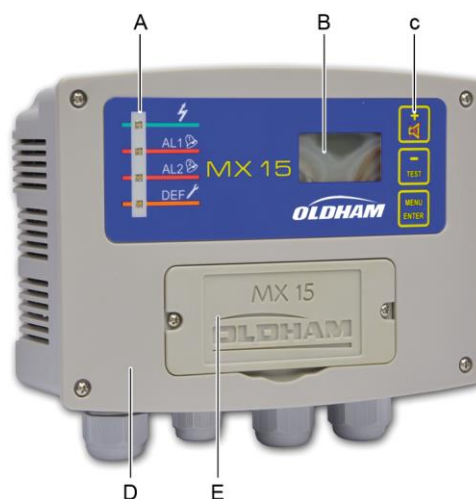

Figure 1: Full view of the *MX 15* controller.
- An enclosure with access cover (Figure 1, ref. E) for the settings (zero, sensitivity);
- A front plate (Figure 1, ref. D) with sector status and alarm indicators (A), LCD screen (B) and touch keys (ref. C).